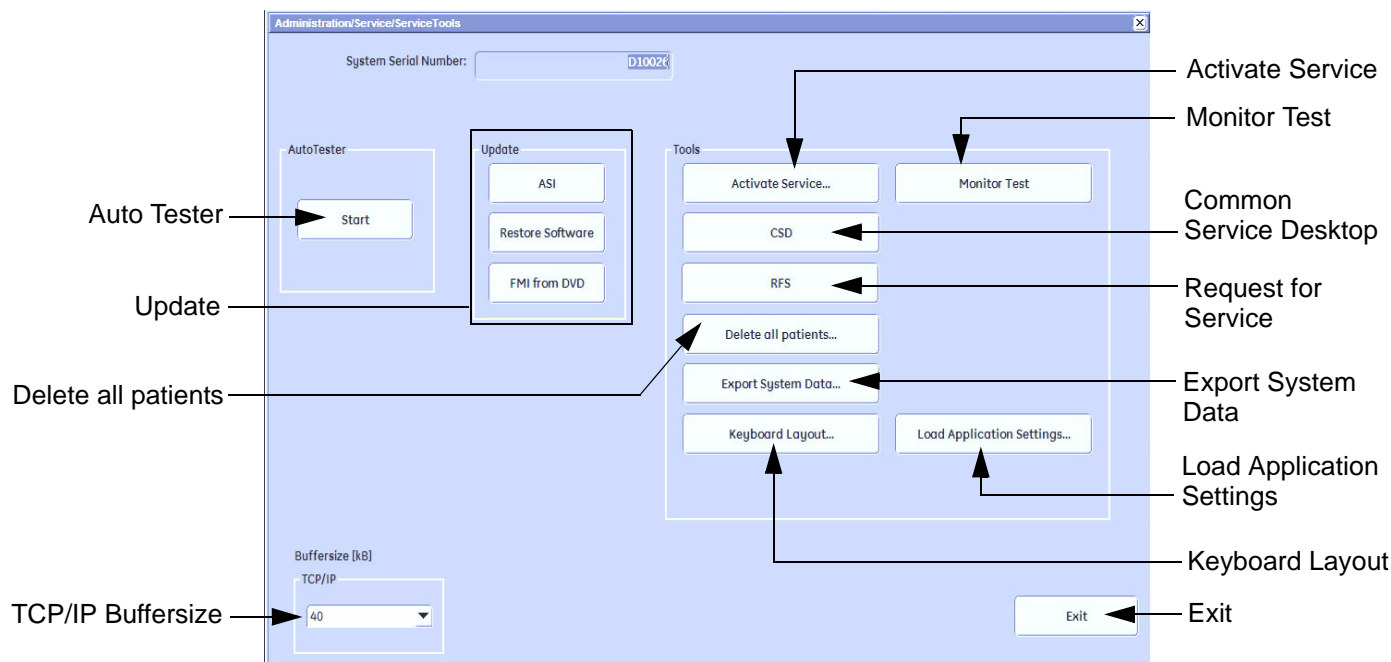

Figure 5-49 Service Tools window
NOTICE The **ACTIVATE SERVICE** button in the Service Tools page (see: Figure 5-49 on page 5-72) also activates/deactivates “Disruptive Mode” and “VCO”.
- 1.) Select the PROBE EEPROM button on the “Service Tools” page (Figure 5-49 on page 5-72).